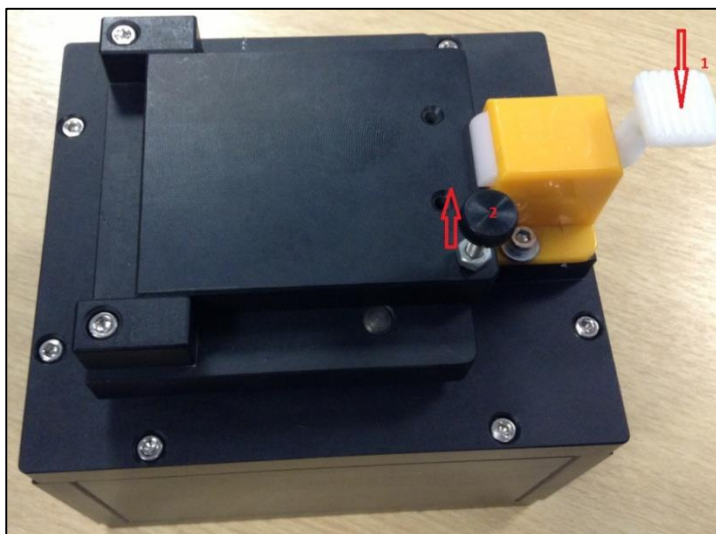

Figure 1: BL600 programing Jig
1. Release the latch by pushing the white lever (1) down and lifting the handle (2). (Figure 1)